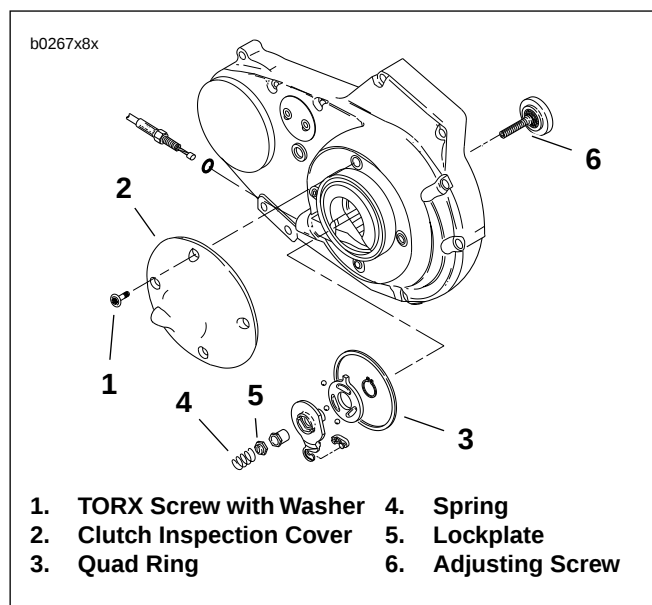

Figure 1-21. Clutch Release Mechanism
3. See Figure 1-21. Remove four TORX screws with washers (1) from clutch inspection cover (2). Remove clutch inspection cover from primary cover. Do not damage or dislodge Quad ring (3) from primary cover.
Quad ring is shown removed from primary cover for illustrative purposes only in Figure 1-21.
8. See Figure 1-21. Install clutch inspection cover (2) using four TORX screws with washers (1). Tighten in a cross-wise pattern to 7-9 ft-lbs (10-12 Nm).